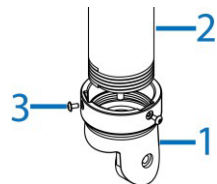

Figure 7
1. Place the pendant/pole mount adaptor (1) (Figure 7) around a standard 1 1/2" Male NPT threaded water pipe (2) (Figure 7) and securely attach the two M3x0.5P (L = 6mm) screws on the pendant mount adaptor with the T10 security Torx wrench.